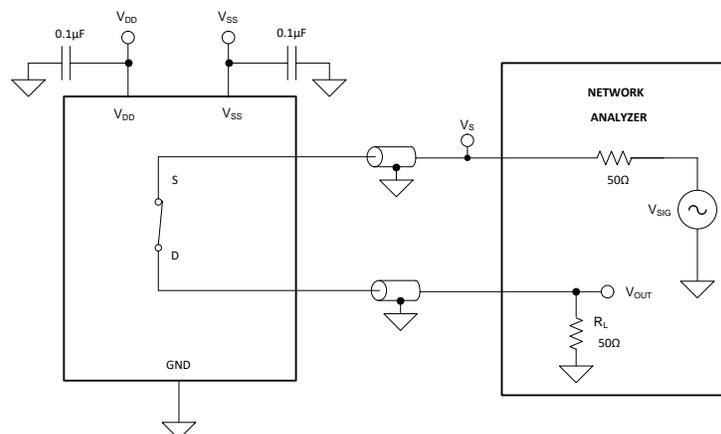

图 27. Bandwidth Measurement Setup
Bandwidth is defined as the range of frequencies that are attenuated by less than 3 dB when the input is applied to the source pin (S_x) of an on-channel, and the output is measured at the drain pin (D) of the device. 图 27 shows the setup used to measure bandwidth.